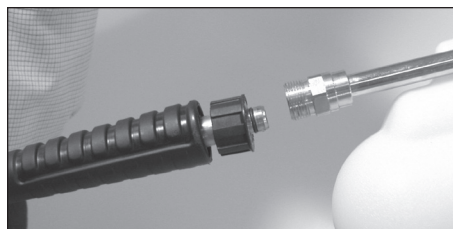

Figure 7– Attach lance to gun
7. Attach the lance with nozzle to the gun (see Figure 7).